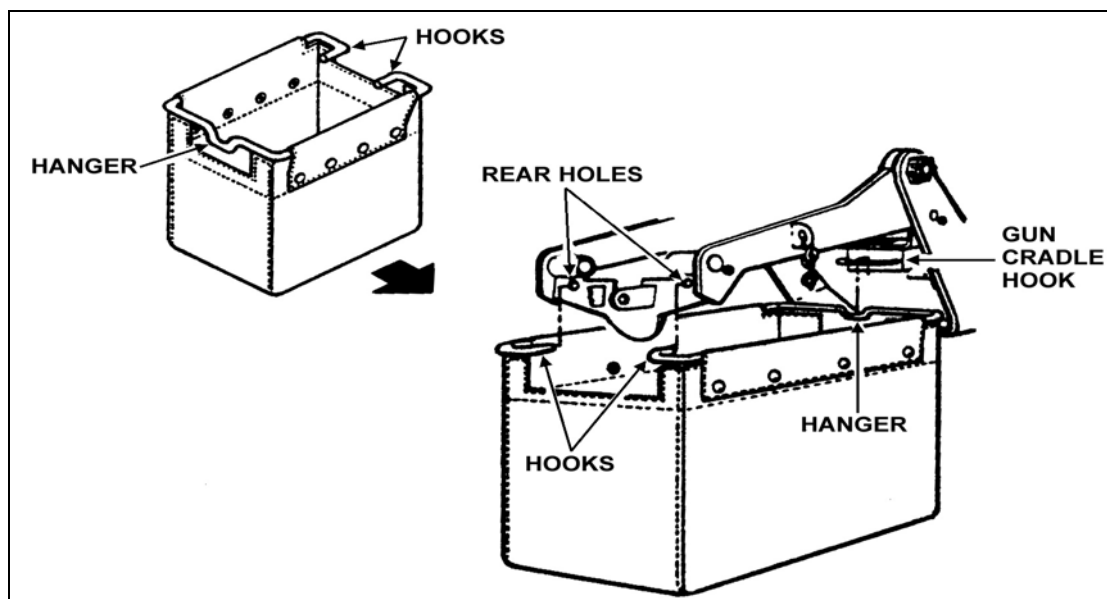

Figure 3-25. Attachment of empty case catch bag.
(2) Insert the two hooks on the empty case catch bag through the rear holes in the gun cradle. Engage the single front hanger on the catch bag with the hook on the gun cradle (Figure 3-25).